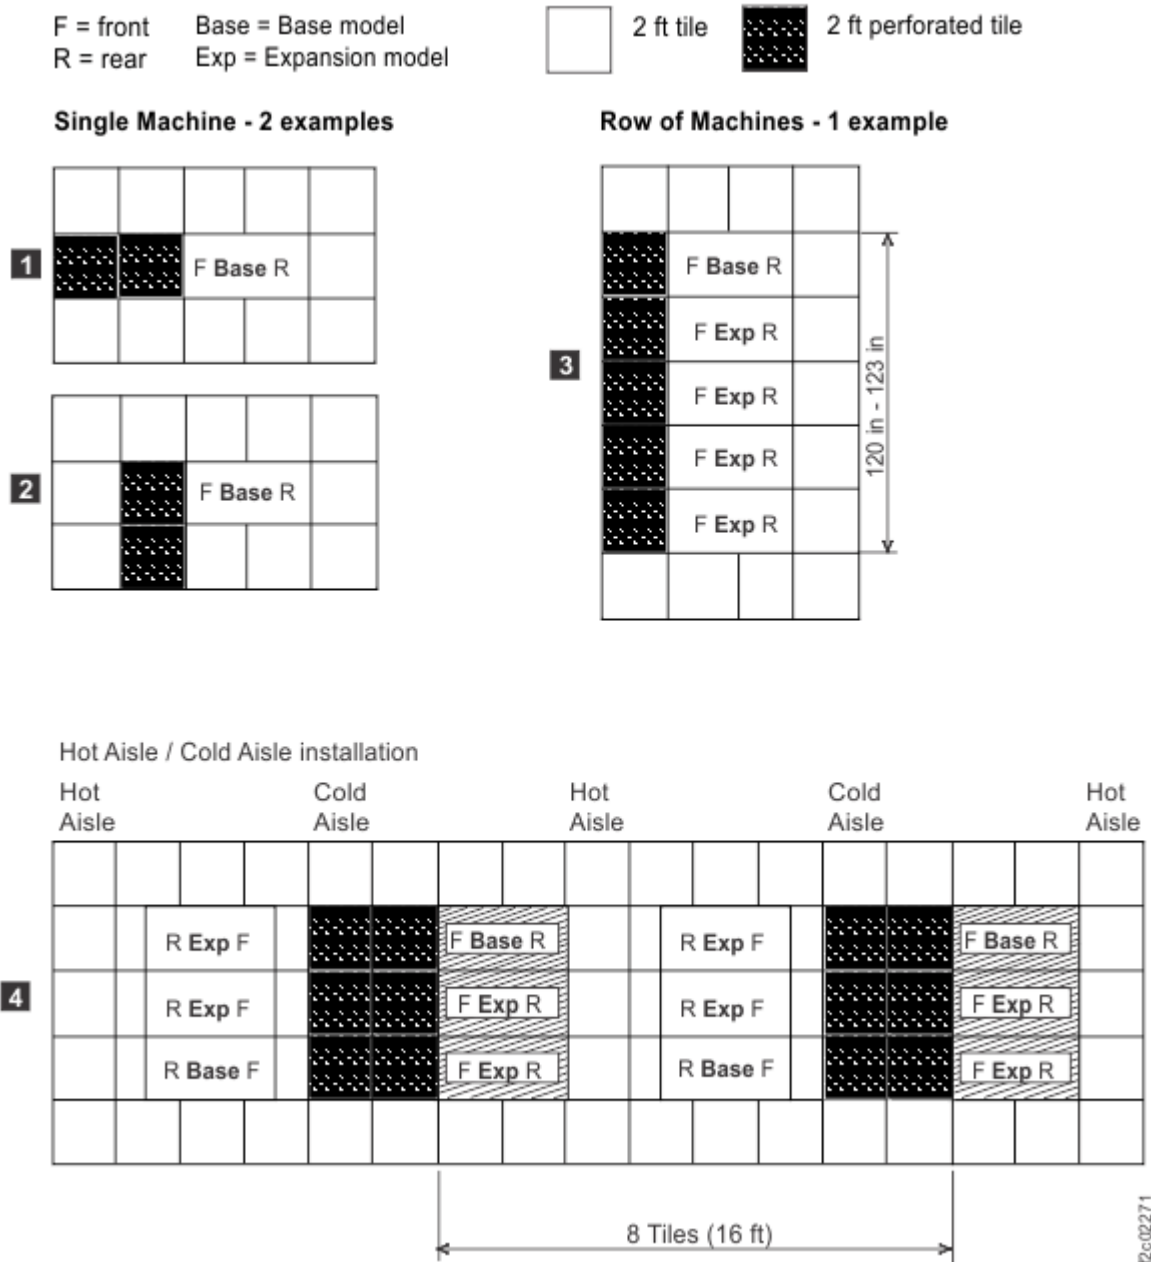

Figure 13. Typical rack and perforated tile locations for hot and cold aisles
- a. For stand-alone base frames, install two fully perforated tiles in front of each base frame, as shown in Figure 13 on page 103 in the single-machine examples (**1** and **2** in the figure).
- b. For a row of storage systems, install a row of perforated tiles in front of the storage systems as shown in Figure 13 on page 103 (**3** in the figure).
- c. For groupings of storage systems, where a hot aisle/cold aisle layout is used, use a cold aisle row of perforated tiles in front of all storage systems. An example of a possible minimal arrangement is shown in Figure 13 on page 103 (**4** in the figure).
**Note:** Keep in mind that the example represented in Figure 13 on page 103 meets service clearance requirements. However, floor loading requirements might require a wider hot aisle to provide up to 30 inches of non-overlapping clearance (for total of 60 inches between the rear side of the frames on either side of the aisle.)